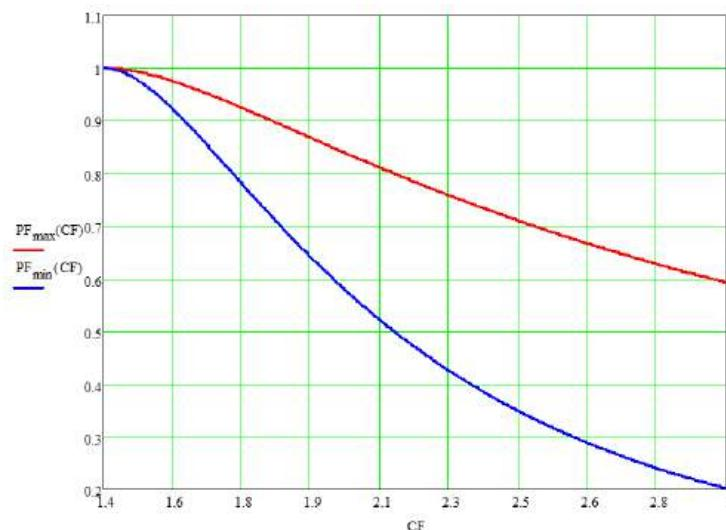

Figure 7-4 Relationship between PF and CF
According to theory, the relationship between maximum PF and CF is shown in Figure 7-4
2. If "Both" is selected in CC mode (see section 7.4.6) and CP mode (see section 7.4.7), CF and PF values need to be entered at the same time. In the "Both" mode, the priority of CF and PF needs to be set again. If the setting exceeds the range shown in Figure 7-4, the regenerative AC load will automatically change the setting to a valid range as explained in the following 2 examples.